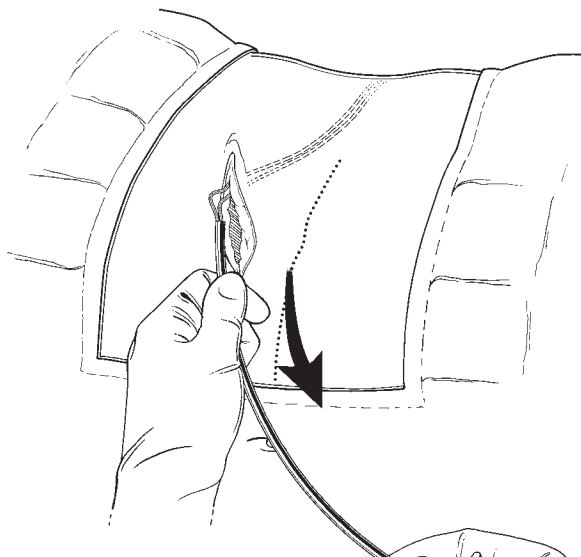

FIGURE 45
- 8 Remove the tunneling tool (FIGURE 45).